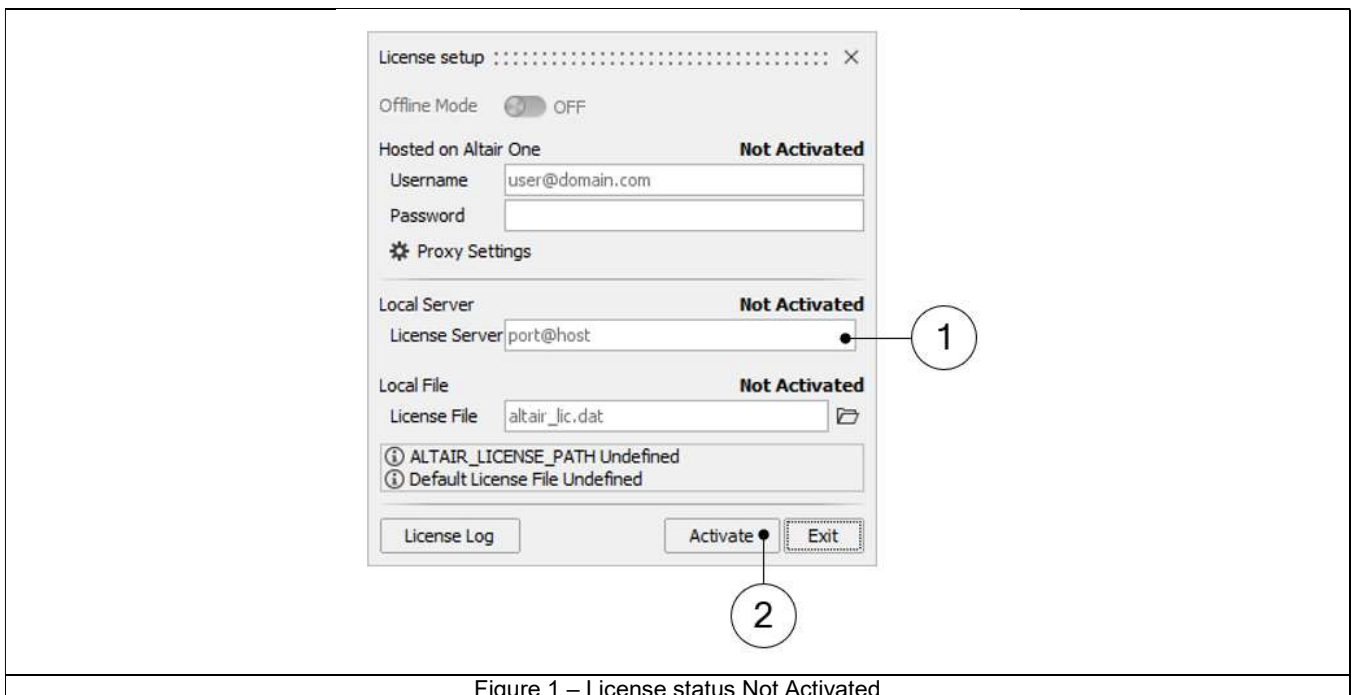

Figure 1 – License status Not Activated
- 2) Enter the port@host information for the License Server (Mark 1 - Figure 1 – License status ).
- 3) Click on the “Activate” button (Mark 2 - Figure 1 – License status ). The status changes to “Activated” when the license is validated, or you will receive an error message if unsuccessful.